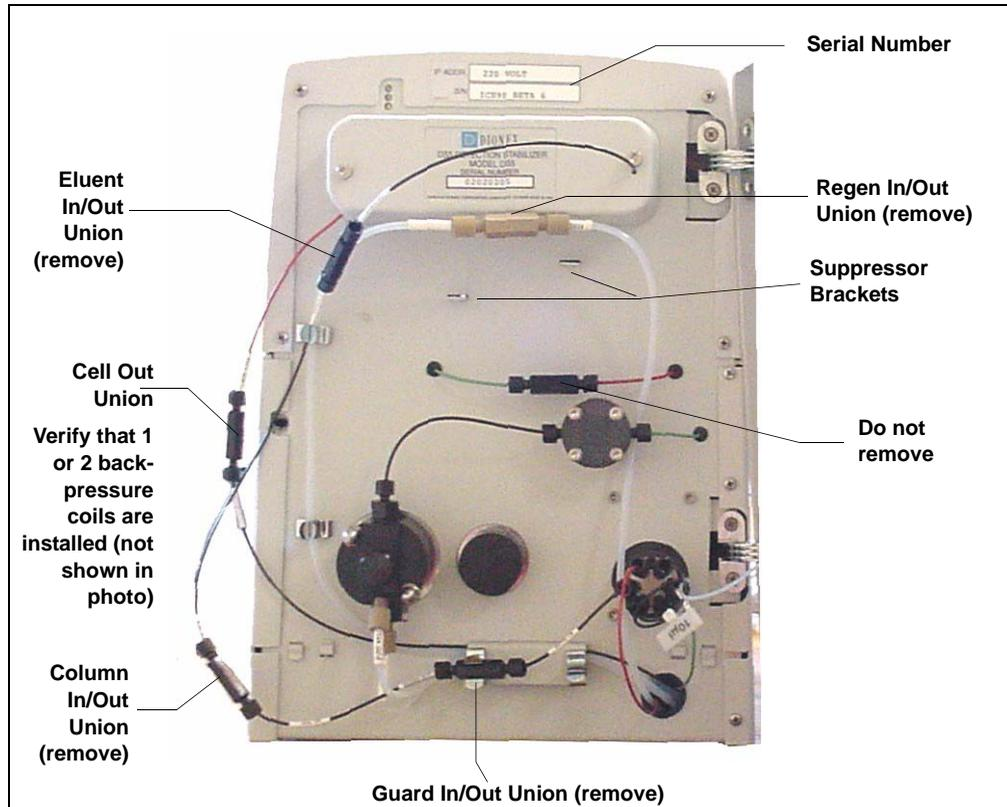

Figure B-19. ICS-90 Component Panel (Door not shown)
5. On the **General** tab page, **Live Mode** is selected by default. Select the ICS-90 serial number from the drop-down list. If you are installing more than one ICS-90, you can verify the serial number for each system by checking the label at the top of the component panel (see Figure B-19).
2. Plumb the guard and separator columns. Refer to the labels on the tubing, to Figure B-19, and to the following instructions.